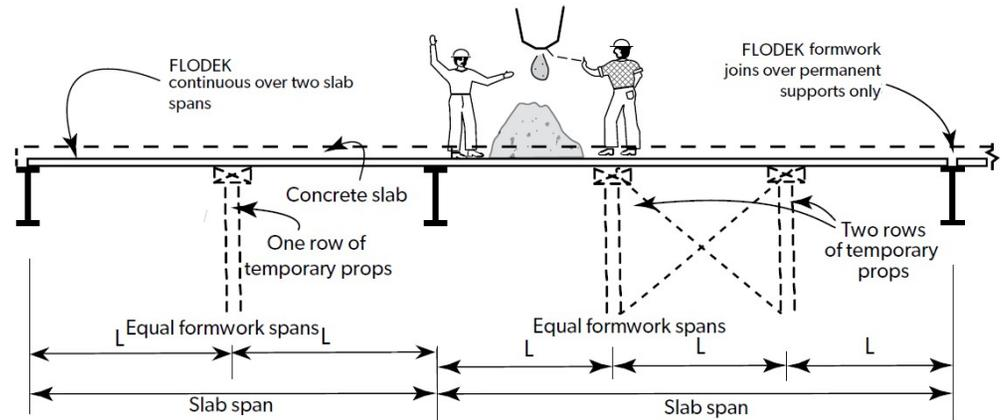

FIGURE 2
ASTEEL FLODEK™ sheets continuous over two (2) or more slab spans (FIGURE 2)